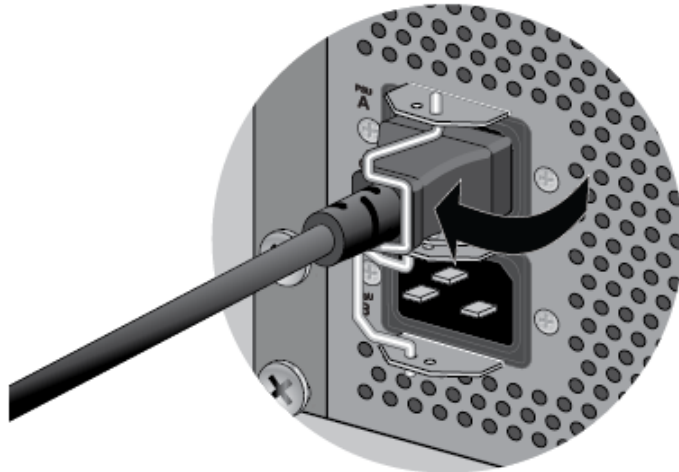

Figure 54. Securing the Power Cord with the Retaining Clip
2. Move the retaining clip over the power cord to secure the cord to the chassis. Refer to Figure 54.